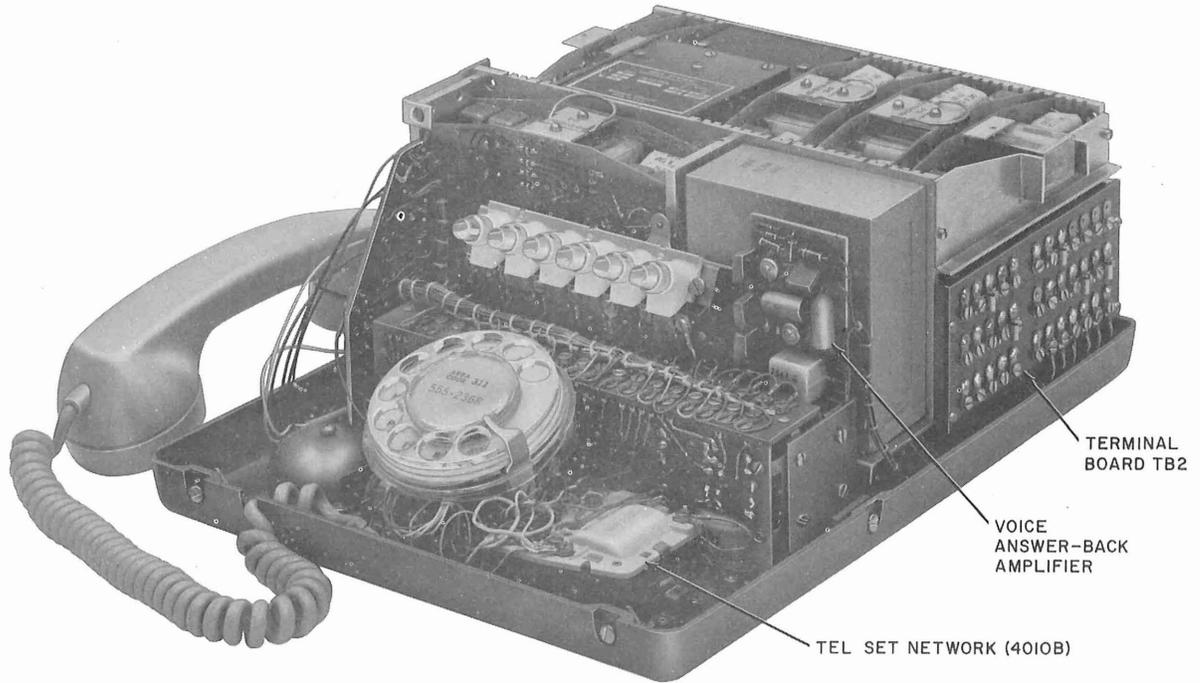

Fig. 6—Data Set 401J3 or 401J7—Inside View
2.12 An inside view of Data Set 401J3 or 401J7 is shown in Fig. 6. When the voice answer-back amplifier is removed, Data Set 401J3 becomes Data Set 401J2 and Data Set 401J7 becomes Data Set 401J6.